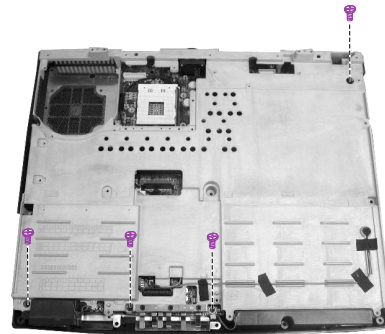

Figure 2-26 Remove the base unit cover
7. Remove five screws from the system board, and lift up the base unit to access the system board. (Figure 2-26)